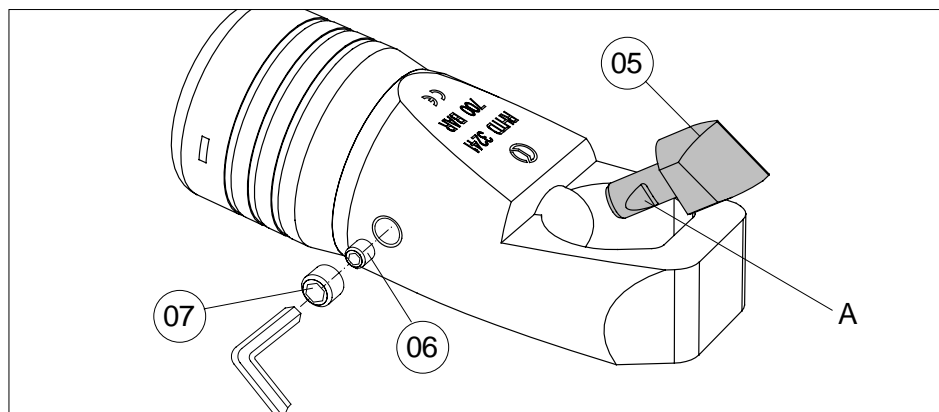

FIG. 3 BLADE CHANGING - CHANGEMENT DE LA LAME - MESSERWECHSEL - CAMBIO DE LA CUCHILLA - CAMBIO DELLA LAMA
4. BLADE CHANGING (Ref. to Fig. 3)
- Make sure that the ram (15) is completely retracted. If this is not the case follow the instructions described in § 2.4.
- With a 6 mm Allen key, remove grub screw (07).
- With a 4 mm Allen key, slacken grub screw (06) until the blade is free (05).
- Fully insert the new blade, **taking care to orientate the milled side of the tang (A) towards the side of the head with the hole, as illustrated in Fig. 3.**
- Fully tighten grub screw (06) and fit the security grub screw (07).